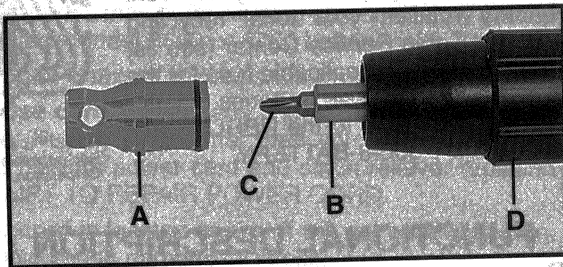

Fig. 2
2. Twist and pull the aluminum nosepiece (A), Fig. 2, out of the depth stop assembly.
3. Pull bit holder (B), Fig. 2, straight out. If it is difficult to remove, grip with pliers and pull. **NOTE:** Bit (C), Fig. 2, may be removed from bit holder by pulling straight out.
1. Pull the adjusting collar (D), Fig. 2, forward, (away from power unit), and hold while performing Step 2.